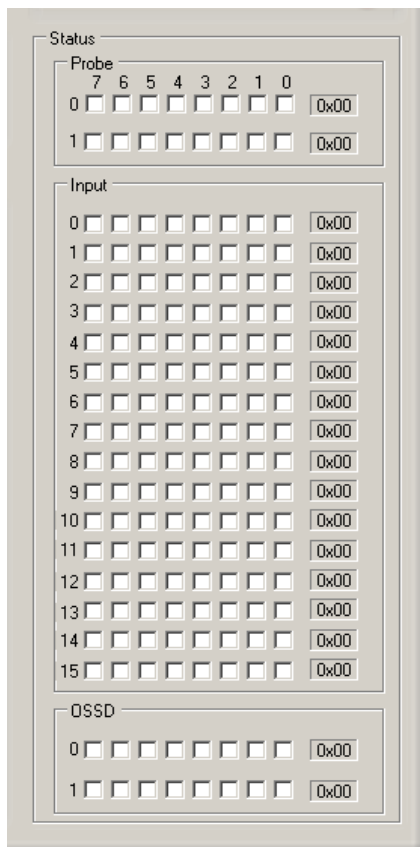
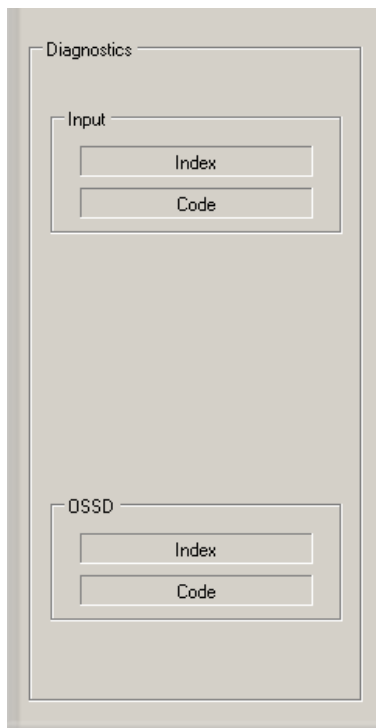

Figure 12
Figure 13
- The input and output status and relative diagnostics (displayed cyclically if one or more incorrect events occur) are illustrated in Figure 12 and Figure 13.